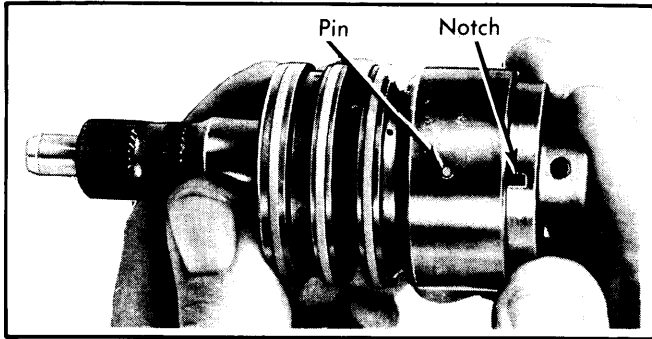

Fig. 9 Aligning Pin and Notch for Input (Stub) Shaft
3) Install stub shaft in spool valve and valve body. Be sure stub shaft locating pin is aligned with spool valve locating hole. Align notch in stub shaft cap with stub shaft locating pin and press stub shaft and spool valve into valve body. Install stub shaft cap "O" ring into valve body. See Fig. 9.